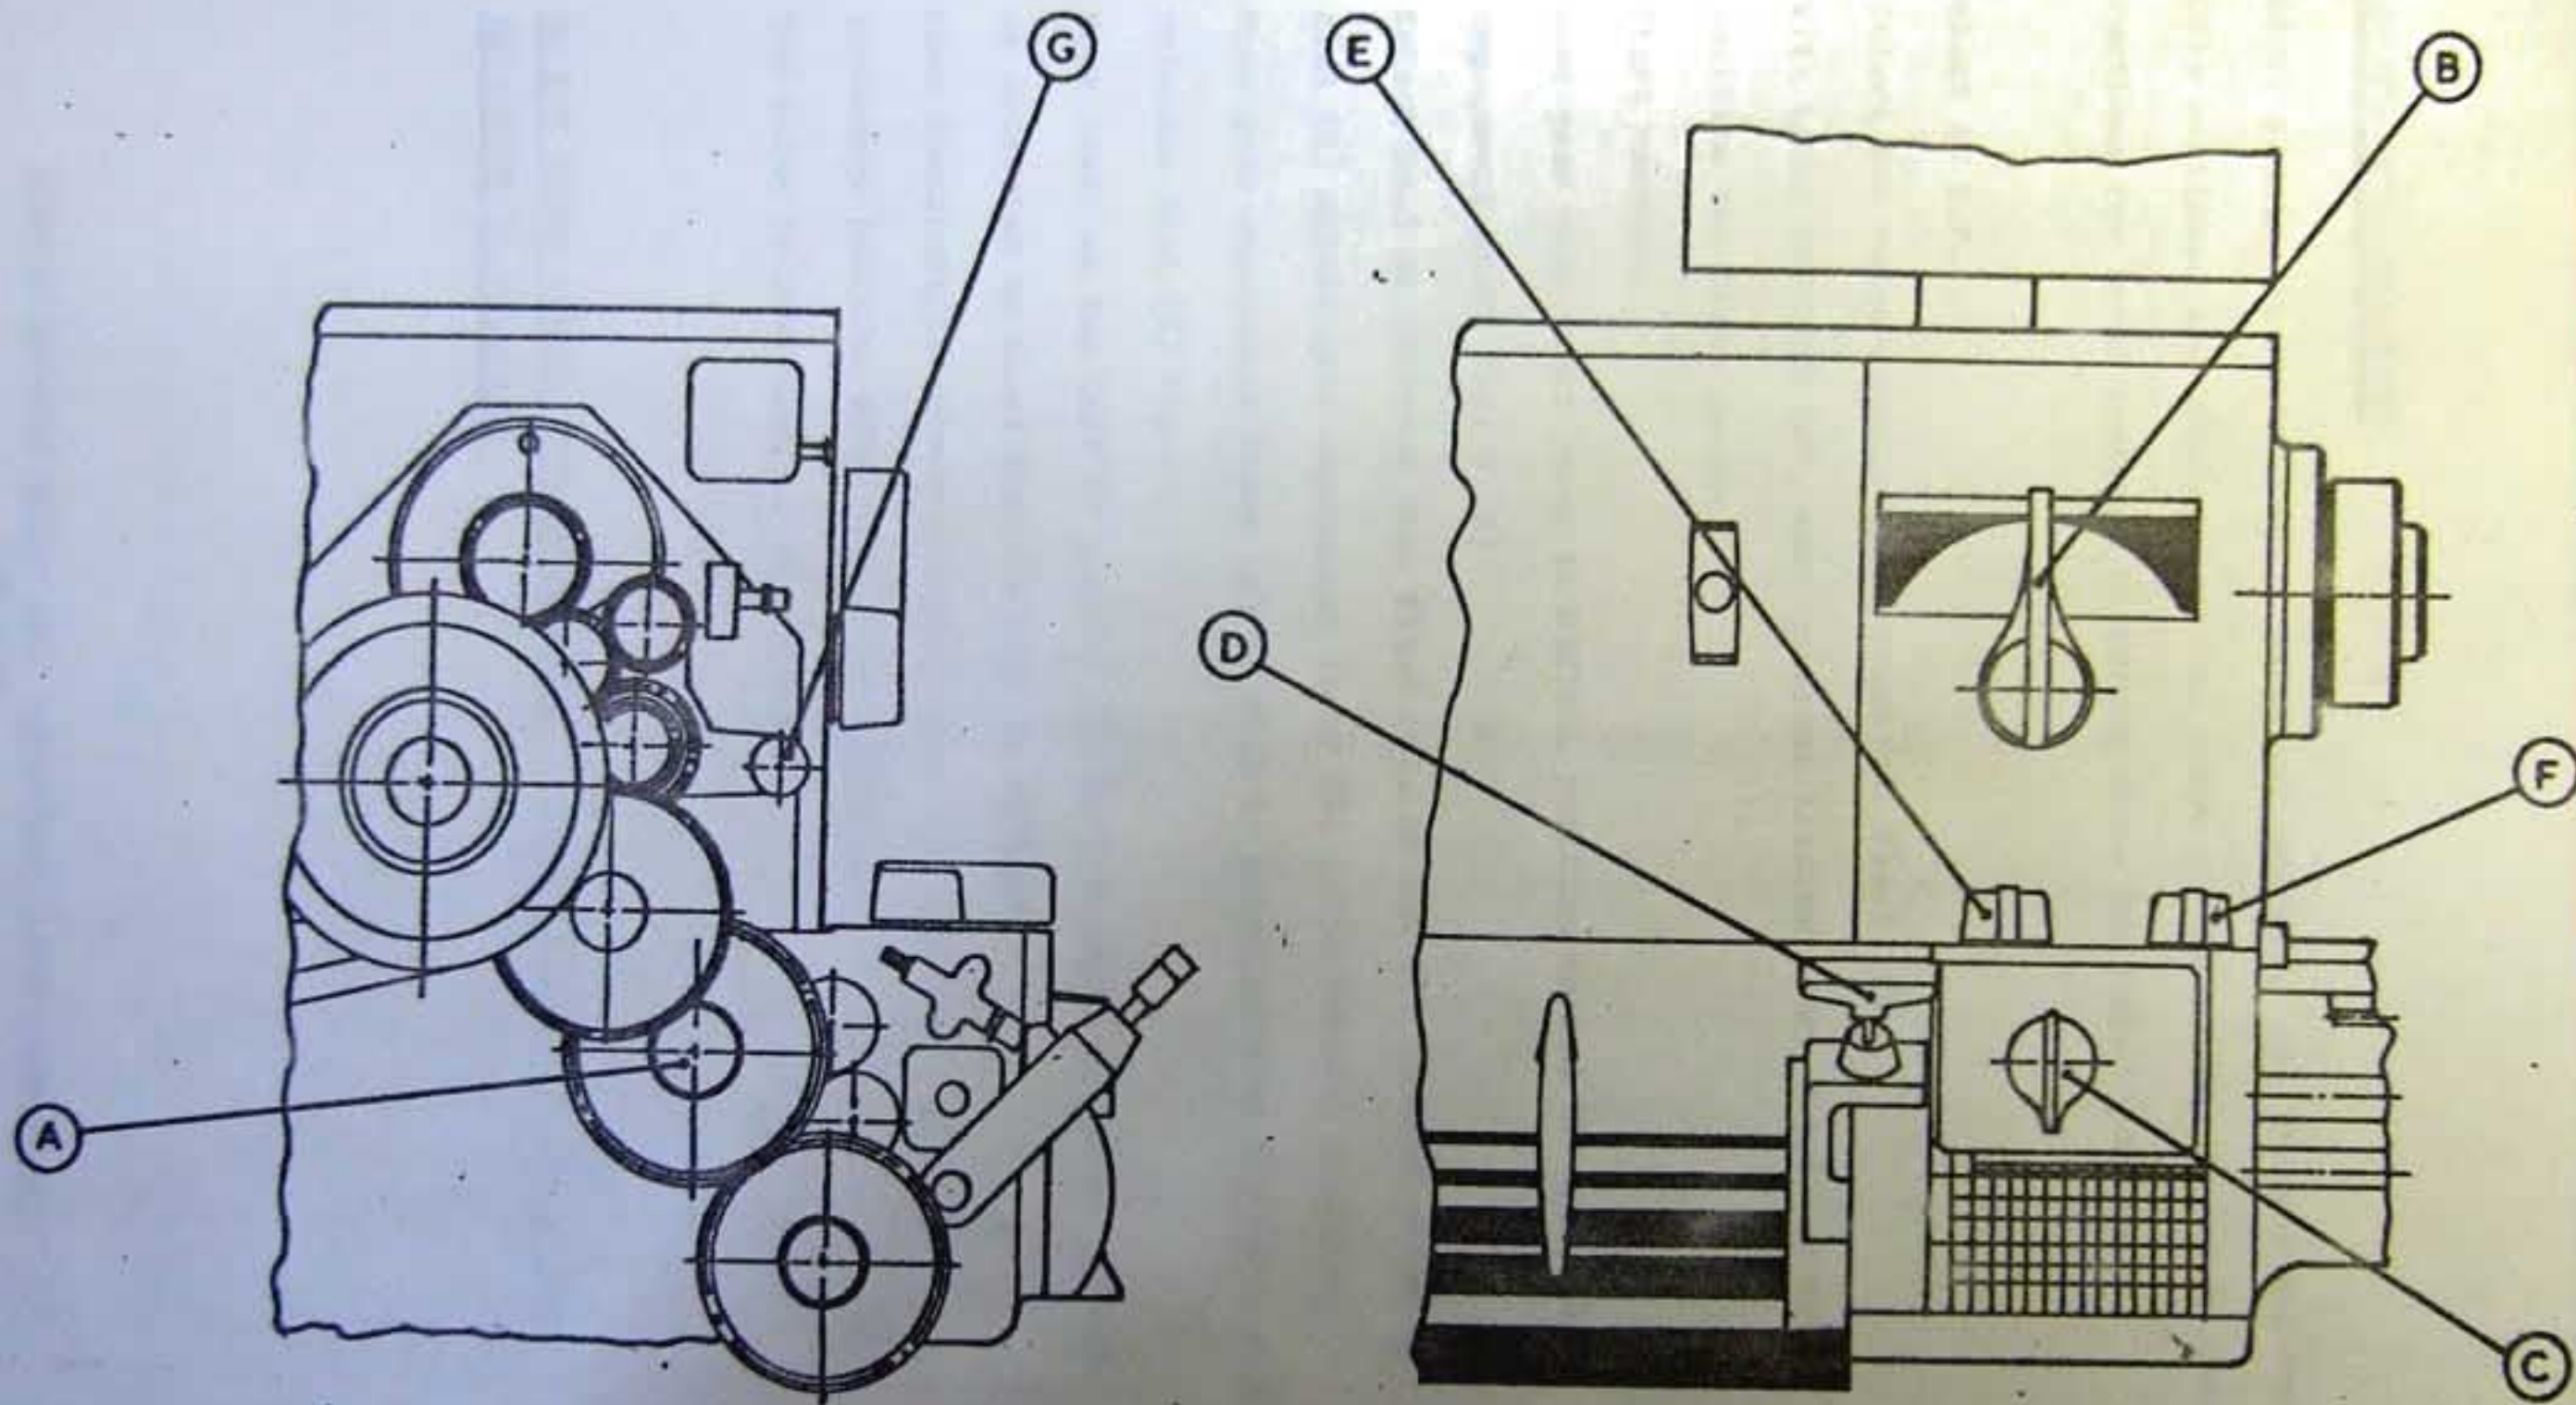

FIG 6.
The spindle speeds are divided into high and low range, selection is made by moving the lever on the headstock face (Fig.6 (B) to HIGH or LOW range.
- 1). Select low range spindle speed required. Fig.6 (B)
- 2). With LATHE SWITCHED OFF, move quadrant sliding gear. Fig.6 (A) to IN position and close guard.
- 4). Move gear engagement lever to NEUTRAL position marked 'N' on gear engagement chart Fig. 6 (D)
- 5). Select No.3 on selector dial Fig.6 (C). DO NOT TRY TO MOVE selector dial (C) unless gear engagement lever (D) is in NEUTRAL position.
- 6). Move gear engagement lever (D) to No.3 to correspond to the number on selector dial (C) Fig.6
- 7). Move lever on top left of gearbox (E) to the right to select 20 T.P.I as indicated on chart when MACHINE IS RUNNING.
- 8). Move feedshaft/leadscrew selector lever (F) on top of gearbox to leadscrew position WHEN MACHINE IS RUNNING.